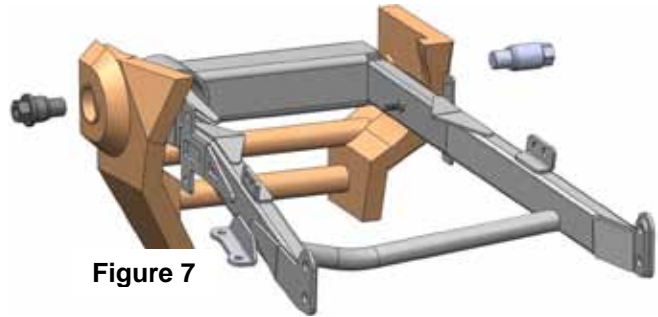

Figure 7
- a. Install Champion swing arm (ensure bearings and bushings are present and properly positioned in swing arm and with drive shaft tunnel to left hand side (LHS)) to the vehicle using the supplied pivot bolts (shouldered bolt on the LHS) See Figure 7
- d. Install RHS OEM pivot lock nut. Hold pivot bolt while tightening lock nut with Honda special tool (Honda PN 07ZMA-MCAA101), to 72 ft-lb. (108 N-m). Fig. 7 Actual torque is 80 ft-lb. but with the special offset tool the torque is 72 ft-lb.